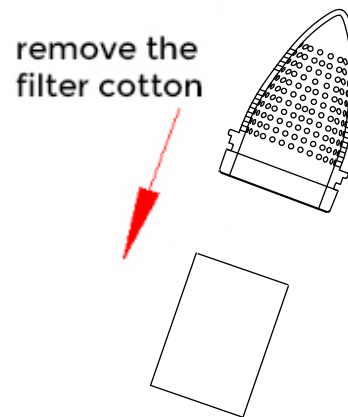

Fig.4
2. Pull the filter cotton downward to remove it (Fig. 4).